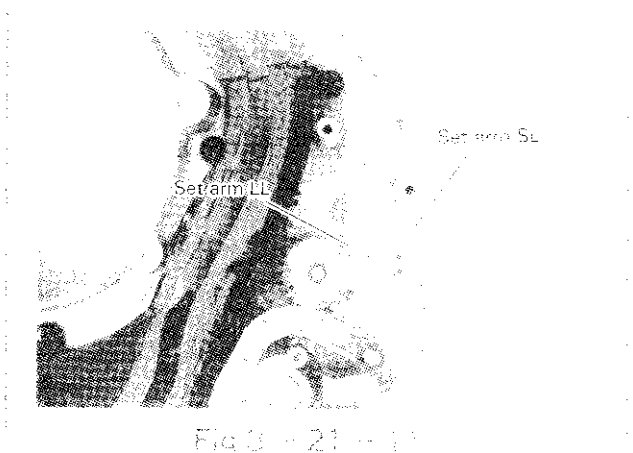

Fig.3-21-11
- 2) Attach the set arm LL and SL to the main plate. (See Fig.3-21-11).